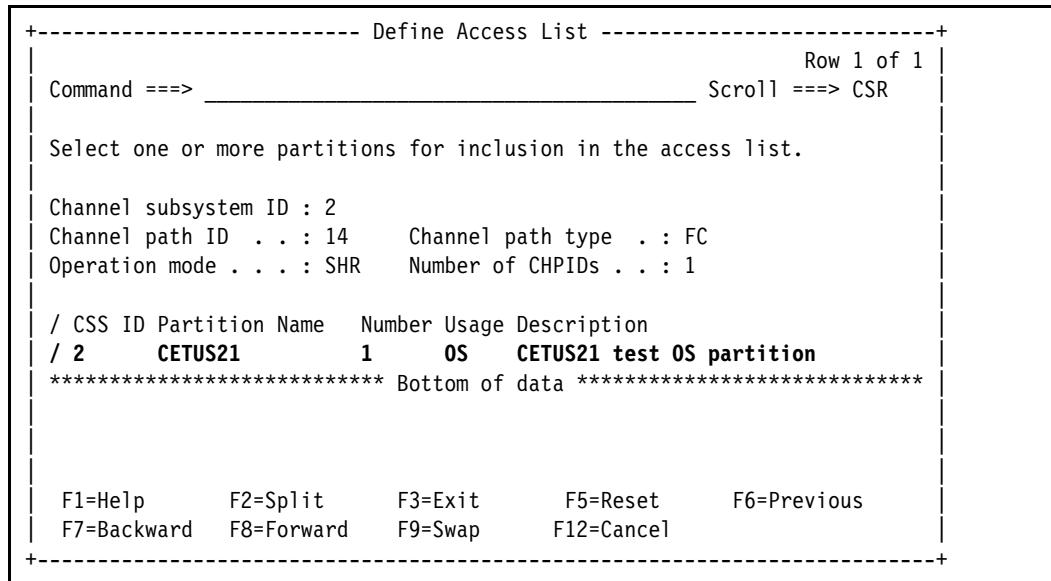

Figure 12-4 Processors: Define Access List
- Type forward slash ‘/’ next to the partition you want (Figure 12-4), and press **Enter**.